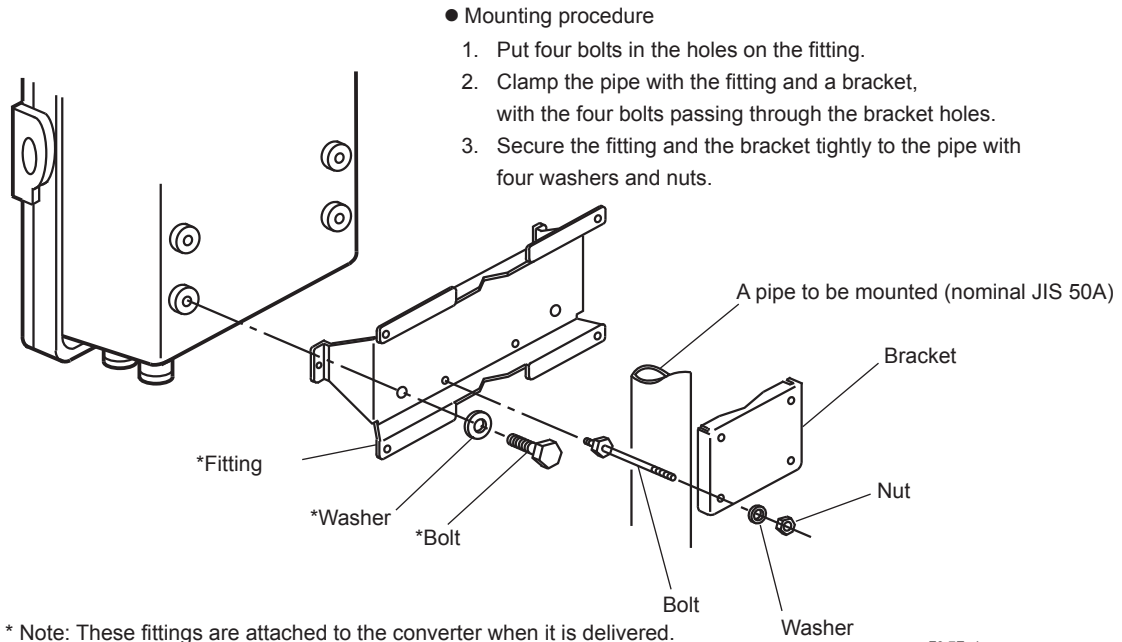

Figure 3.9 Pipe Mounting
- (1) Prepare a vertical pipe of sufficient strength (nominal JIS 50A: O.D. 60.5 mm) for mounting the converter. (Converter weighs approximately 6 kg.)
- (2) Mount the converter on the pipe. Fix it firmly on the pipe in the procedure described in Figure 3.9.